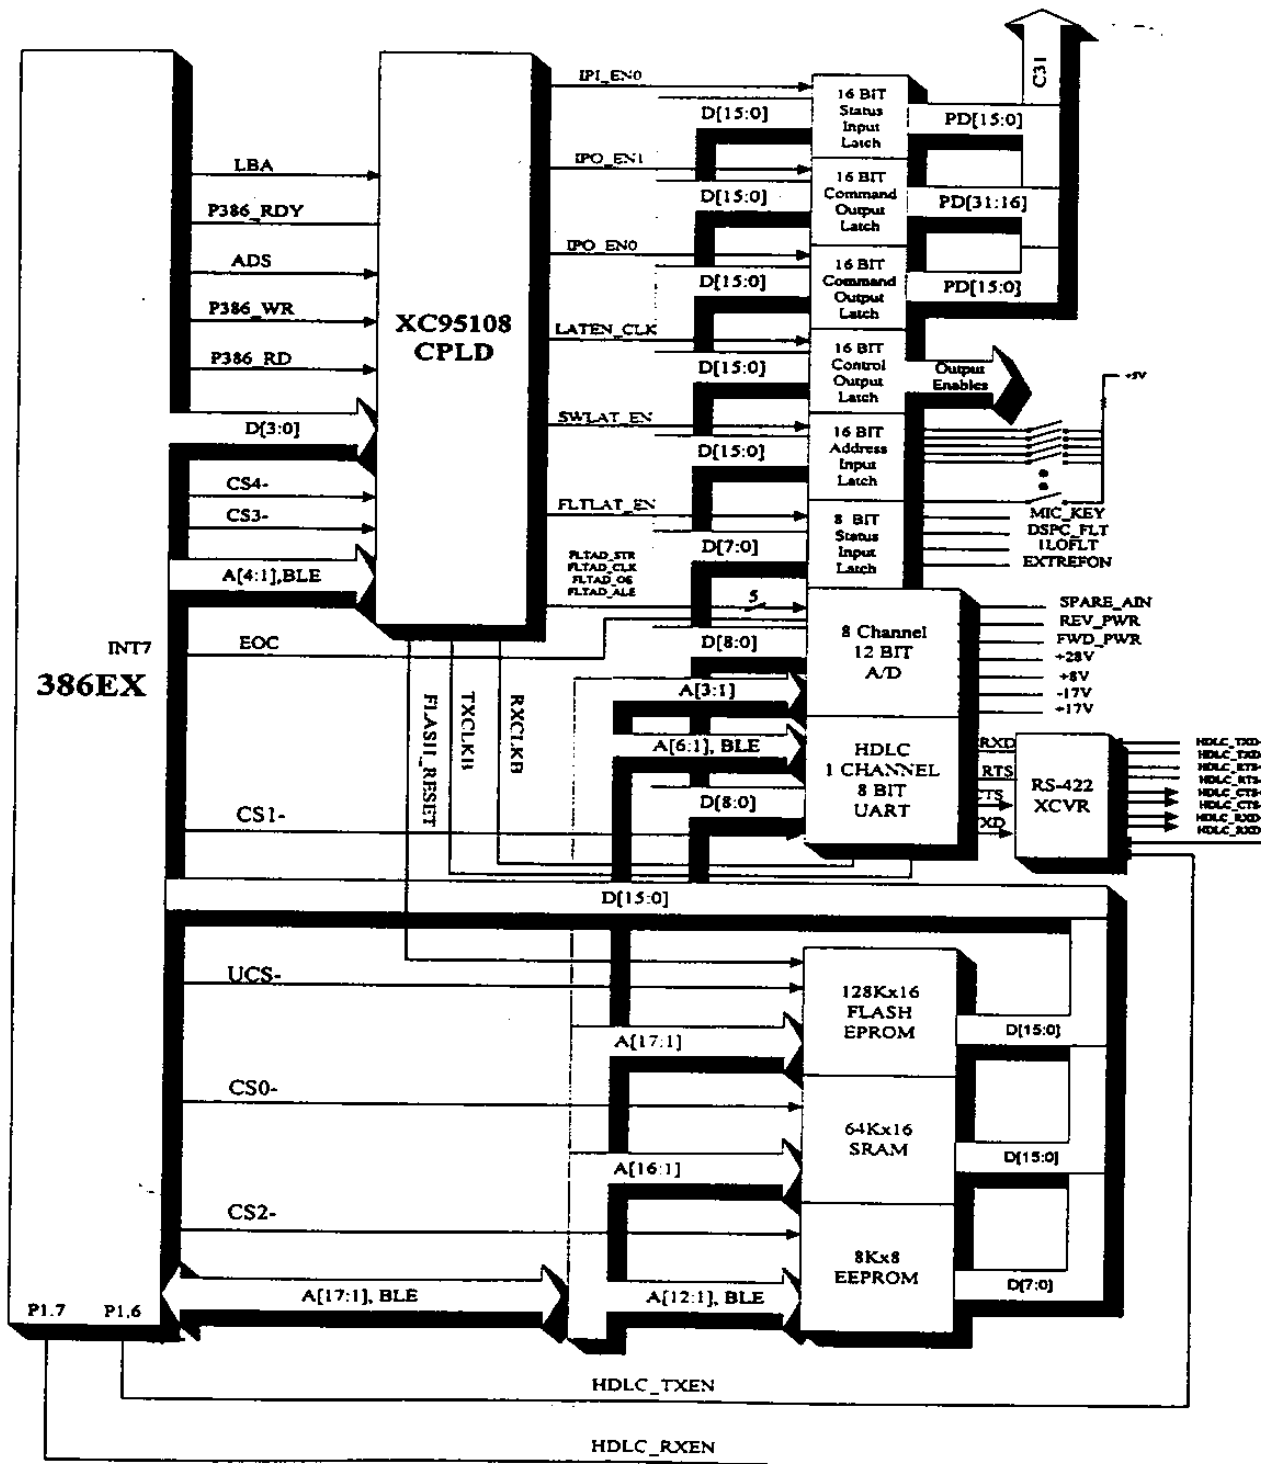

Figure 4-1 Control Section Block Diagram.
**4-2.6.1 Control Section.** As shown in figure 4-1, the Control Section governs all aspects of the transceivers operation. The Control Section receives commands and transmits status via a RS232/485 interface. All receiver operating parameters, such as frequency and bandwidth are controlled by the Control Section. In addition, the Control Section stores calibration parameters in non-volatile memory which are retained when power is removed.